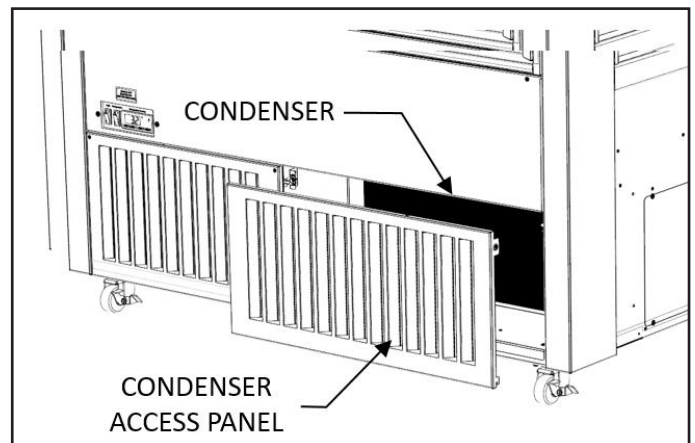

Figure 6 - Condenser cleaning - 1200mm wide units
- (a) The Condenser is located on the rear (operator facing) side of the unit. See Figure 6.